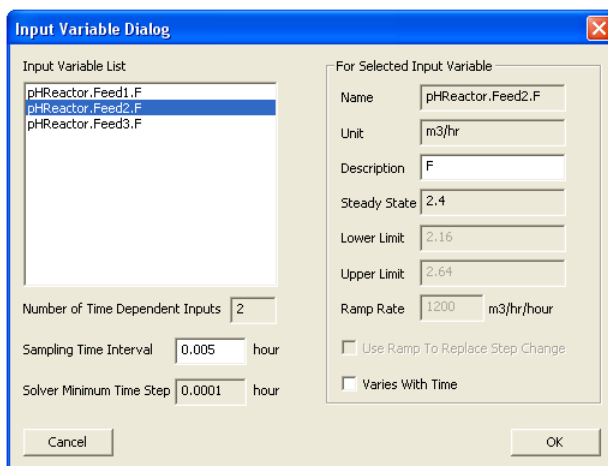

Figure 23: Input Variable Dialog Window
8. Configure the input variables. Navigate to **Setup → Configure Input Variables...** or click  on the toolbar. The “Input Variable Dialog” window displays as shown in Figure 23.